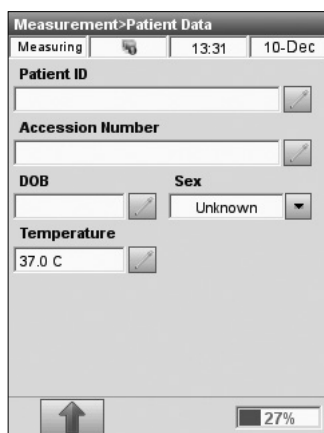

Fig. 5-19 Edit Patient Data
13. The **<Patient Data>** entry screen (Fig. 5-19) contains the information that was configured in **<Setup>** (Section 3.2.2.1).
14. To enter patient data, press  (Fig. 5-19). Use the alphanumeric keypad to type in the desired information or scan a barcode for Patient IDs and Accession Nos.